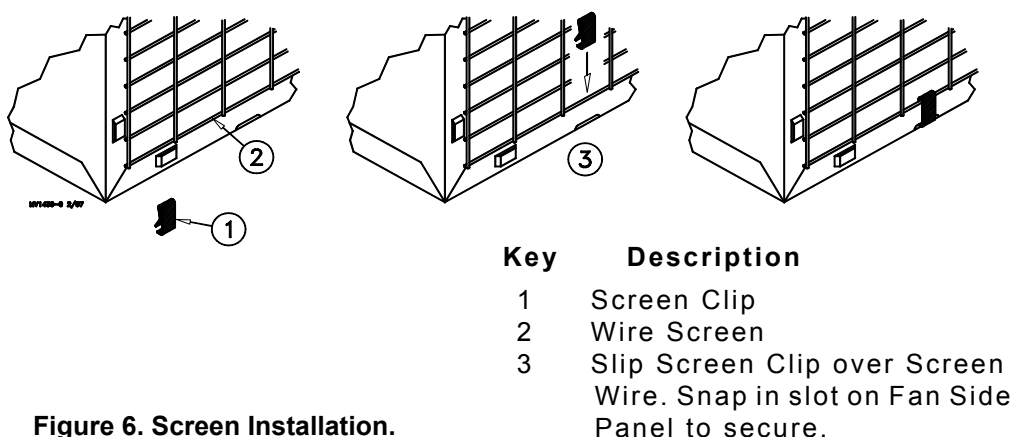

Figure 6. Screen Installation.
Install (4) Wire Clips on each side to secure the Screen to the Panels. See **Figure 6**.
Box Fan Installations: The rear Screen is cut out to accommodate the motor. Position the rear Screen over the back of the fan. Install (4) Wire Clips on each side to secure the Screen to the Panels. See **Figure 6**.
If your fan was ordered as an assembled Box Fan, the Rear Screen is wire tied to the Front Screen. Cut the wire ties and install the Rear Screen to the back of the Fan as shown in **Figure 6**.